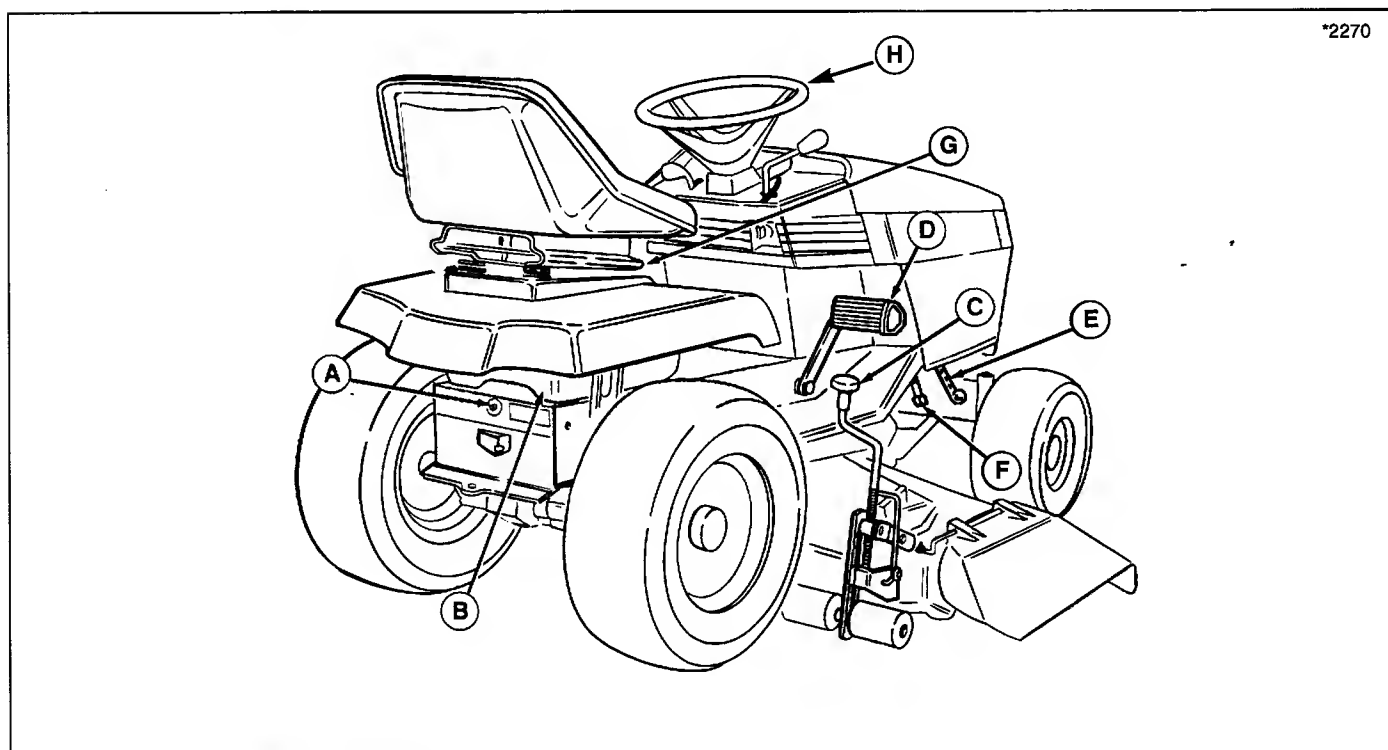

**Figure 2. Tractor Controls (Hydro Model Shown)**
- A. Neutral Indicator Light (G, Figure 2) should go on with transmission lever in neutral gate and should go out when lever is moved to either the forward or reverse gate.
- B. PTO Indicator Light (H, Figure 2) should go on and off with operation of PTO switch.
- C. Oil Pressure Indicator Light (E, Figure 2) should be on and should go out immediately after engine starts.
- D. Operator Seated Indicator Light (F, Figure 2) should go on when operator is present in the seat and should go off as operator rises out of the seat.